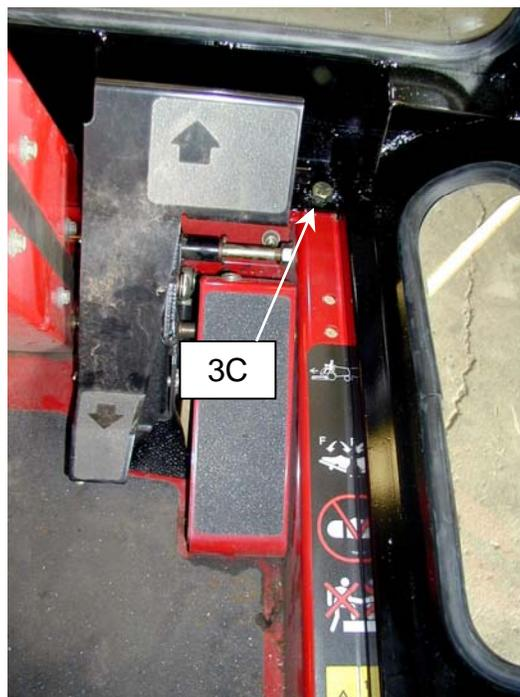

Figure 3C
- C. Make sure that the cab is centered on machine. Match drill two $\frac{17}{32}$ " diameter holes through the pre-punched holes in the cab front and fasten with $\frac{1}{2}$ " x 1" Grade 5 bolts, lock washers and nuts. See Figure 3C. Tighten all bolts thus far installed. Torque to specifications found on the Torque Tightening Chart.